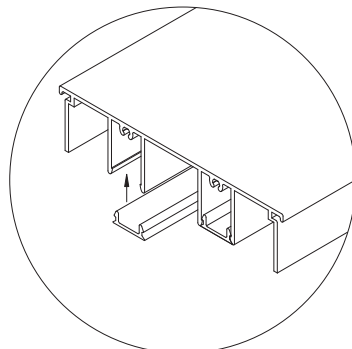
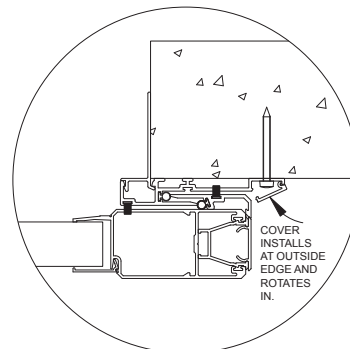

Figure 19
Figure 19a
16. Next install the main frame head screw covers and P-hook screw covers. (See Figure 19) (See Figure 19a)